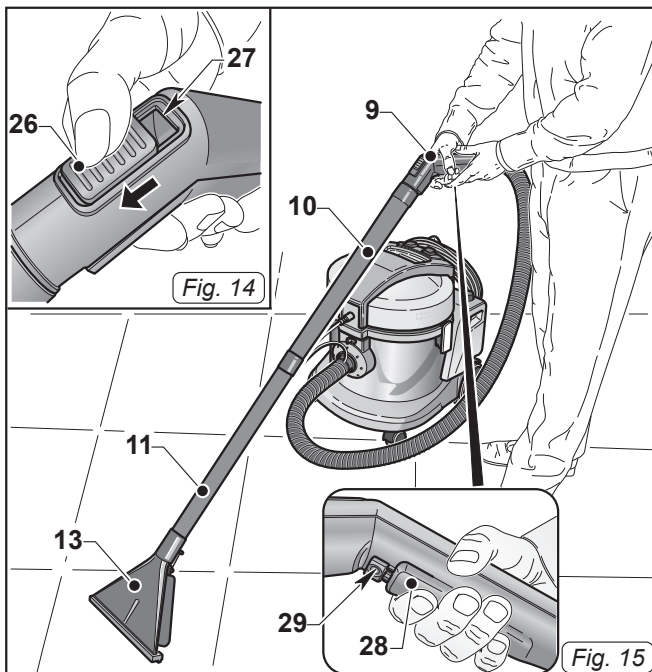

Fig. 15
- To wash floors or carpets it is necessary to mount the hose with ergonomic handle (9 Fig. 15), the rigid extensions (10 and 11 Fig. 15) and the floor nozzle (13 Fig. 15), if present.
- Press the switch (28 Fig. 15) to dispense the detergent, release the button to stop dispensing.
The switch (28 Fig. 15) can be blocked in the pushed position (continuous detergent dispensing) by moving the slide (29 Fig. 15) towards the switch (28 Fig. 15). When the slide (29 Fig. 15) is moved back to its original position the switch is released and detergent dispensing stops.